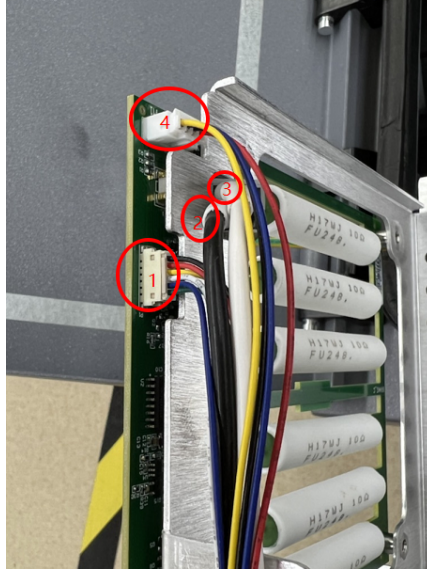

Figure 3-34 : Disconnect the cable
2. Disconnect the cables on the brake board as shown in **Figure 3-34** :